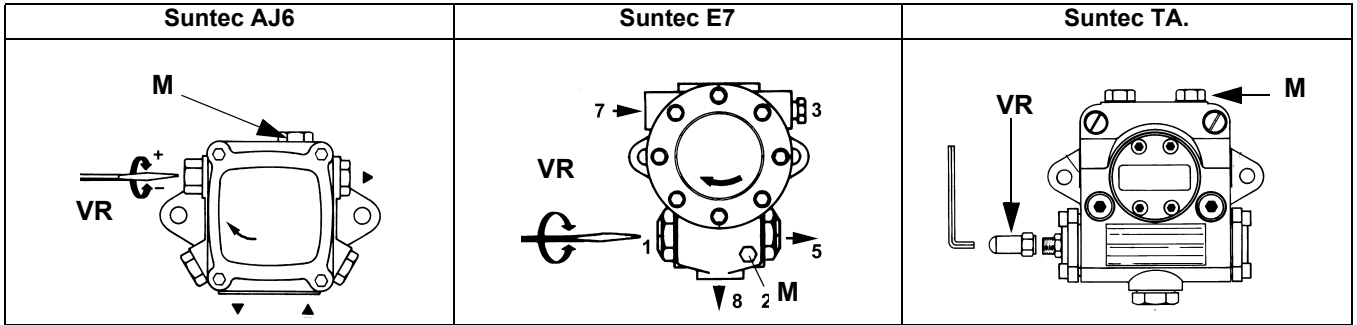

Fig. 26
- 3 bleed the air from the **M** pressure gauge port (Fig. 26) by loosening the cap without removing it, then release the contactor.